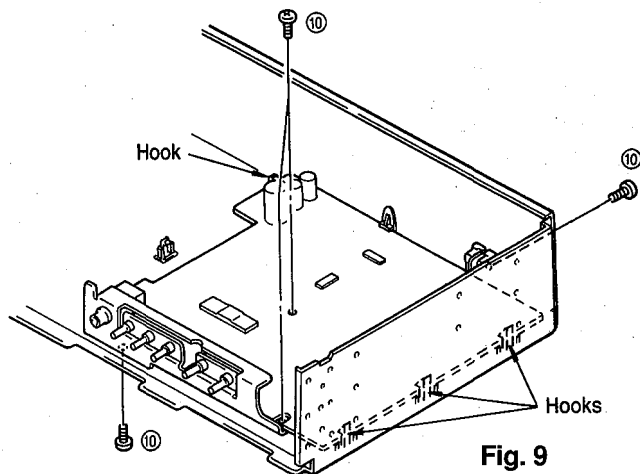

Fig. 9
- a. Remove 4 screws (10) and detach 4 hooks in fig.9.